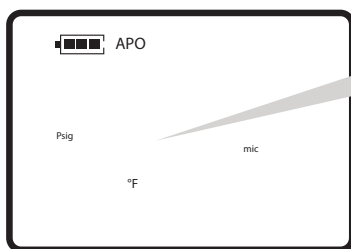

Figure 23
- 1) The next menu item after selecting Vacuum Units is the **Units Summary Screen** (**FIG. 23**). Blinking symbols represents units chosen in previous steps.